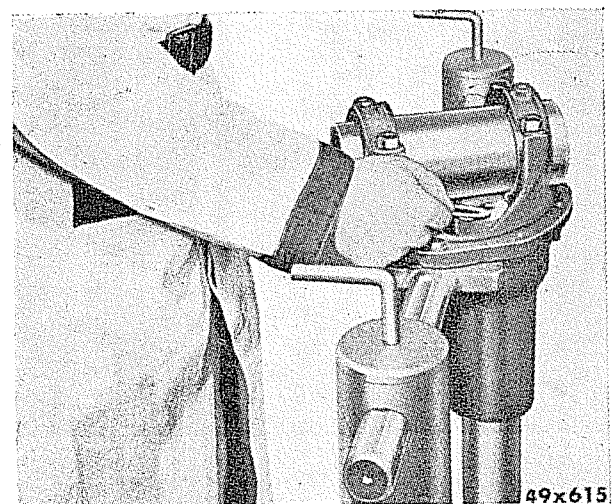

Fig. 14—Spacer Washer Thickness.
- (c) The distance between gauge block and cross bore gauge bar determines thickness of spacer washer to be used, as shown in Figure 14.
(3) Differential Bearing Pre-load and Back-lash.